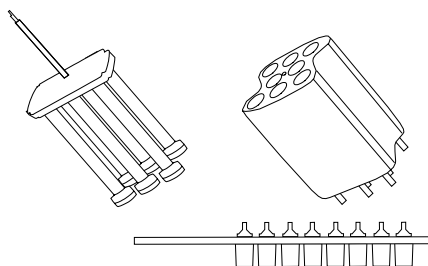

Figure F.1.2: Components to be Autoclaved
4. Place all components (*see Figure F.1.2*) into the autoclave and autoclave at 121 °C for 20 minutes.